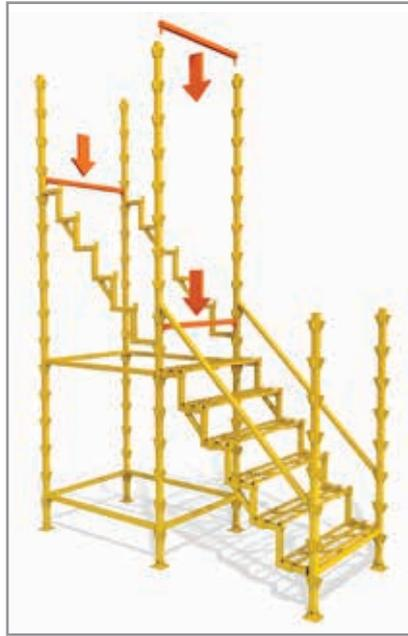

Figure 4.10
4.10 Fit cross braces across and parallel to the stringers on the first spigot - 250mm from base - and on the spigot level with the top of the first stringer and across the spigot which is level with the top of the stringer. (Figure 4.10).